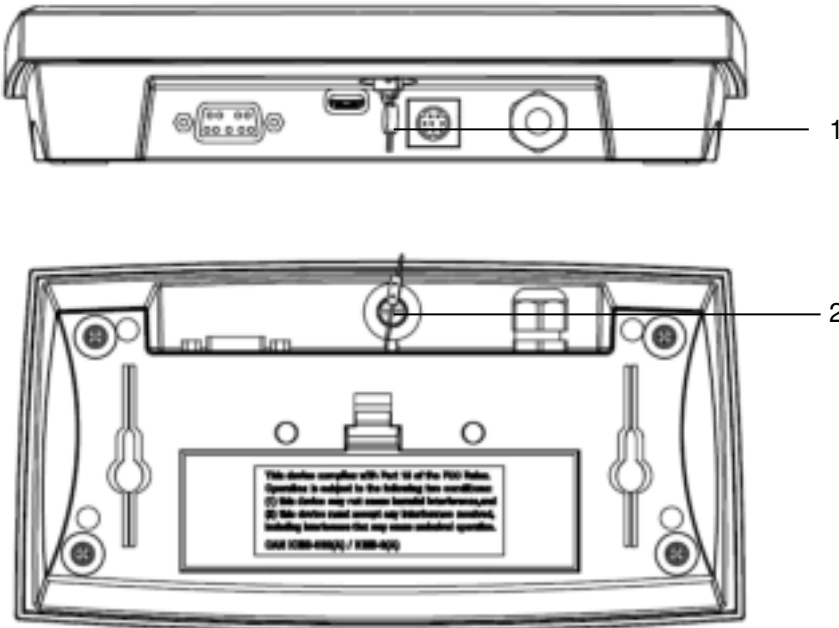

Figure 5-3 Defender 2500 Wire Sealing
- Wire Sealing: replace the countersunk screw by a cross-drilled screw that can be found in the packaging box. Then thread a sealing wire through the screw head and a permanent tab on the bottom housing shown as Figure 5-3.